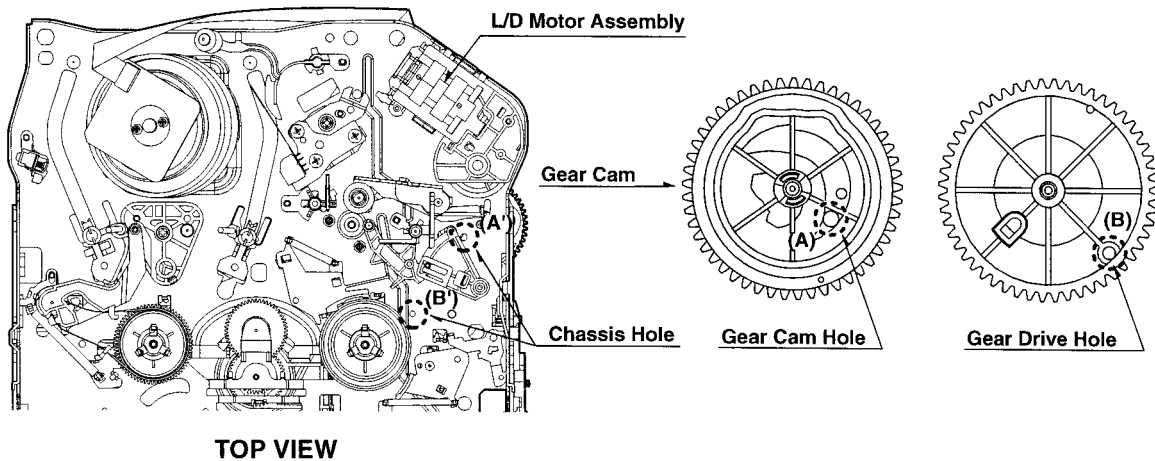

Fig. C-2
- 2) Remove the Top Cover and Plate Assembly Top, visually check if the Gear Cam Hole is aligned with the Chassis Hole as below Fig. C-2.
- 3) If not, rotate the Shaft of the Loading Motor to either clockwise or counterclockwise until the alignment is as below Fig. C-2.